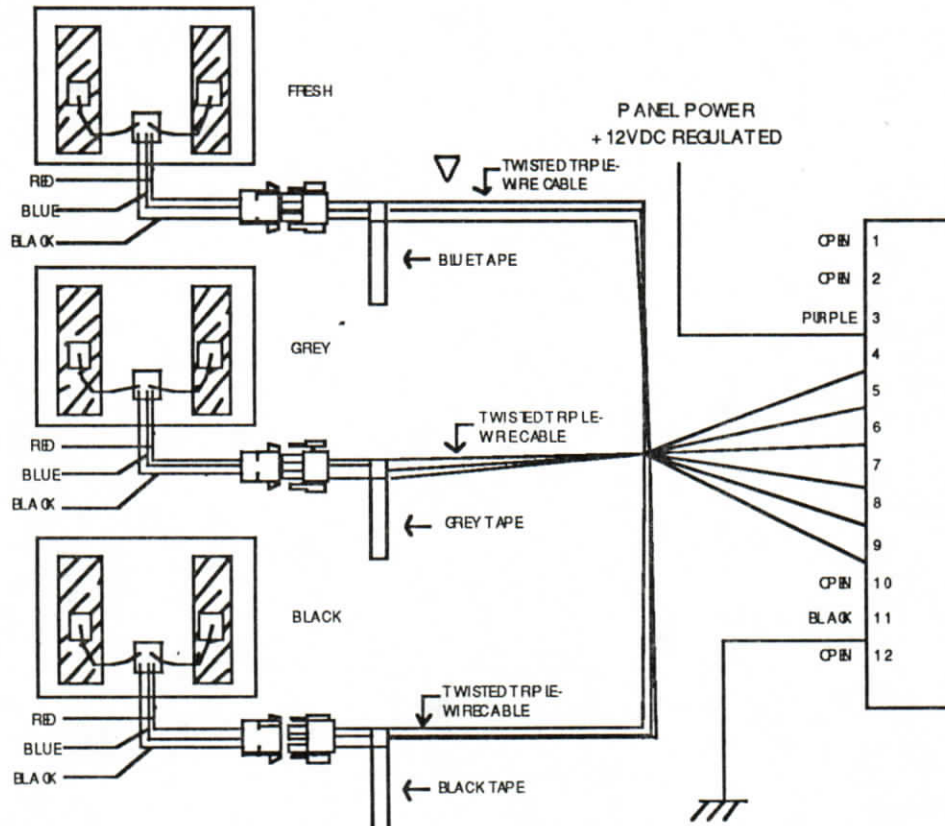

Figure 3: Wire Harness Wiring
(Figure 3) on the next page shows these connections.
Step 1: Check the wiring. 90% of all problems with this system are due to incorrect, faulty, or shorted wiring. Refer to the wiring diagram in Figure 3. Use an ohm meter to check for shorts between the wires and to ground due to staples, sharp corners, etc. Use an ohm meter to check for open circuits in each of the wires.